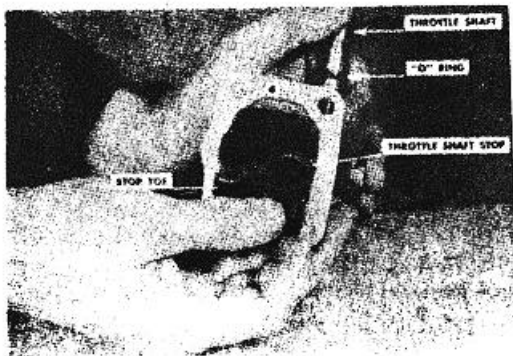

Figure 4-51. Install throttle shaft stop.
DISASSEMBLY: 1. Screw out the throttle lever setscrew and pull the throttle lever assembly from the spring pack cover. Fig. 4-51.
2. Push the throttle shaft and "O" rings through the bushings and throttle shaft stop. Fig. 4-51. The large toe on the stop goes at the top.